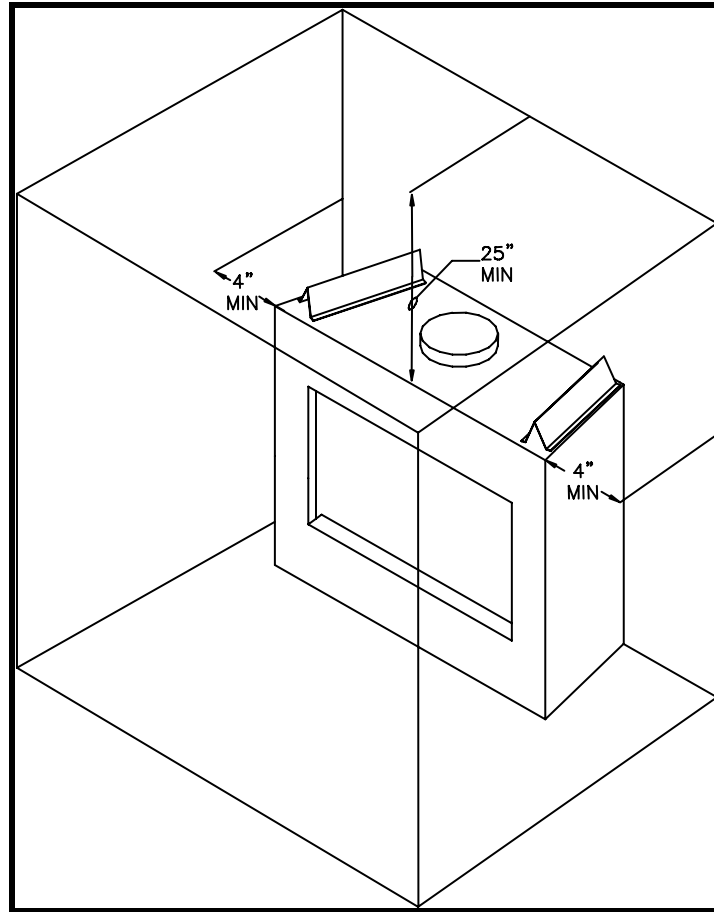

**Figure 2: Fireplace Locations and Minimum Clearances Requirements**
- This fireplace may be installed along a wall, across a corner, or use an exterior chase. Refer to Figure 2 on page 6 for suggested locations.